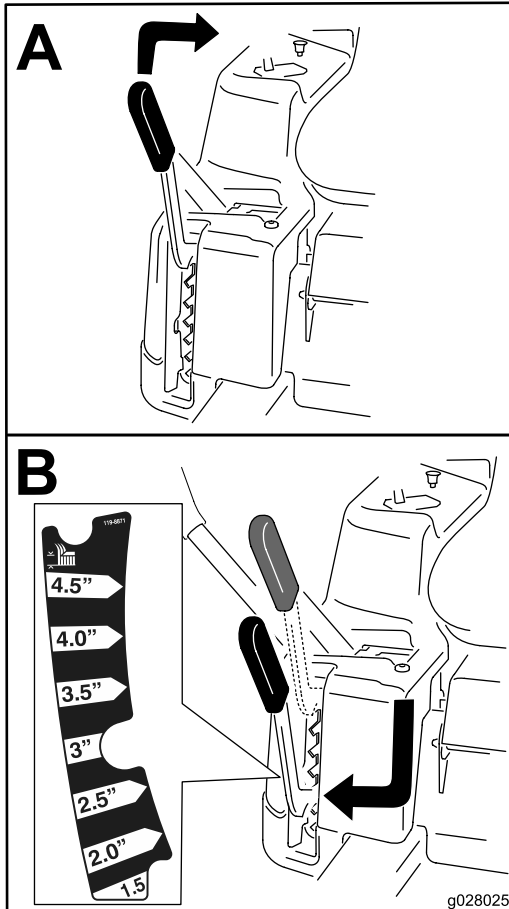

Figure 25
**Note:** The transport position is the highest height-of-cut position at 115 mm (4-1/2 inches) as shown in Figure 25.